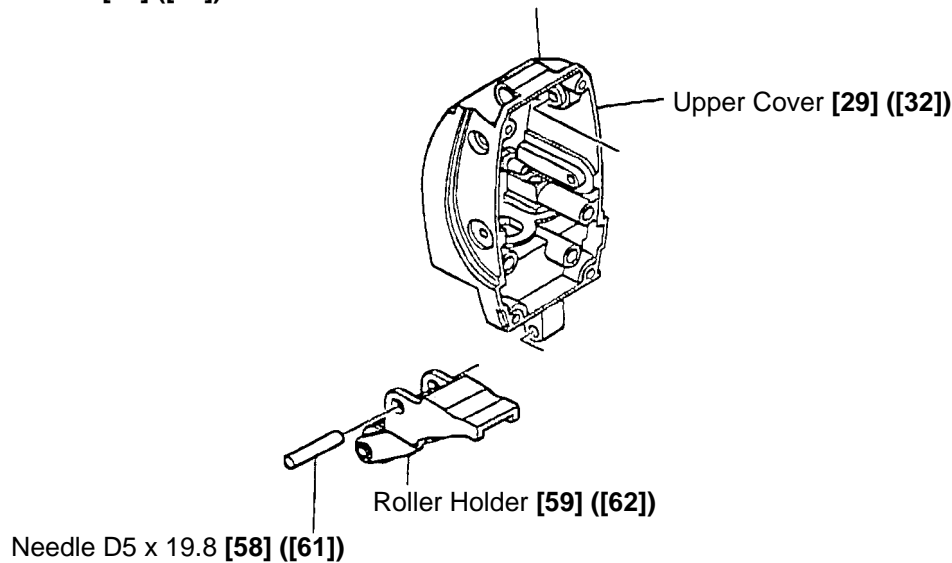

Fig. 10
(6) Disassembly of the Roller Holder [59] ([62]) (Fig. 10)